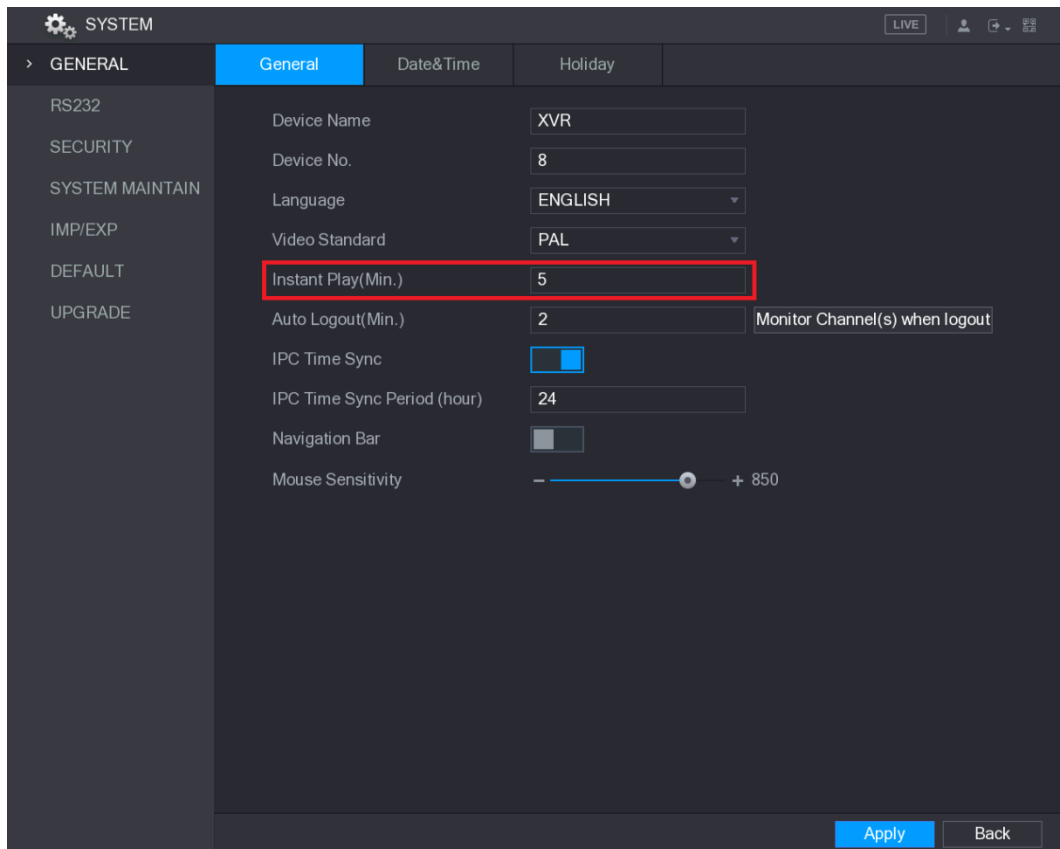

Figure 5-32
- To change the playback time, select **Main Menu > SYSTEM > GENERAL**, in the **Instant Play** box, enter the time you want to play back. See Figure 5-32.